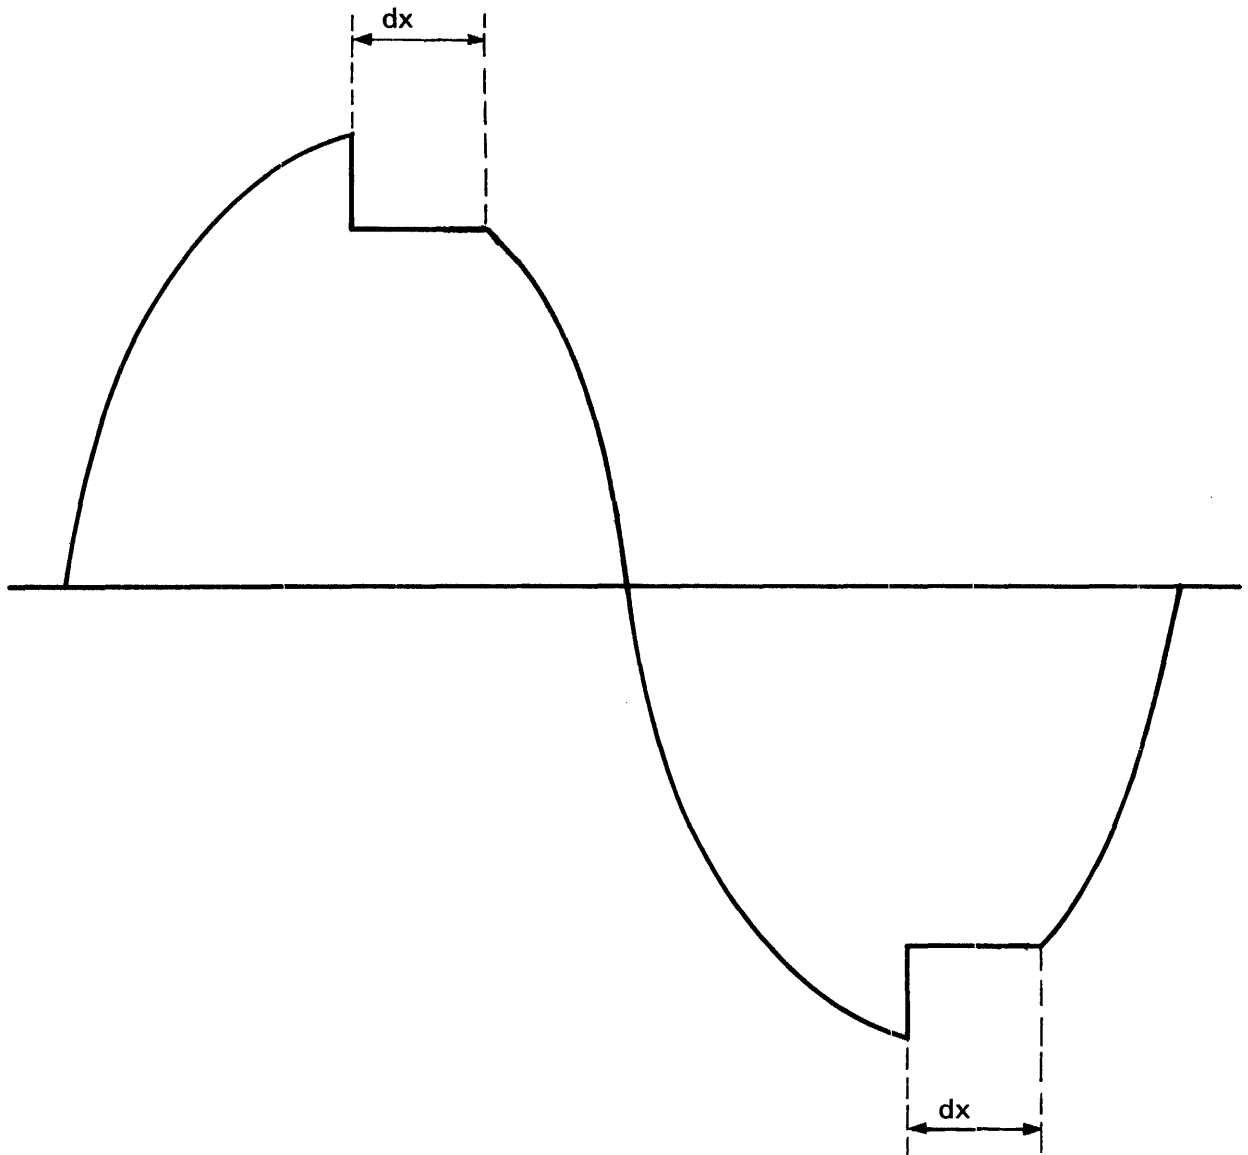

Figure 10-1. Phase Lock SCR Waveform
4. Using 5V per division scale, 5 mV per division time base, and sync internal normal, scope the heat sinks of CR2 through CR7 in the logic bulk supply. The waveforms should be similar to that shown in Figure 10-1. In a perfectly adjusted system, the waveforms for all SCR's should be identical; i.e., the dx for all SCR's for both positive and negative halves of the cycle should be the same. If they are not, adjust in accordance with steps a and b on the following page.
a. Achieving the waveform shown in Figure 10-1 for the three pairs of SCR's depends on two interrelated adjustments: (1) making dx as close as possible for the three pairs of SCR's and (2) keeping dx as small as possible for stable firing. Making dx the same for all three pairs of SCR's is necessary to insure that all turn on to the same degree so that all supply an equal amount of current to the load. Adjustment of dx is provided by three phase adjust pots on the P/L module: